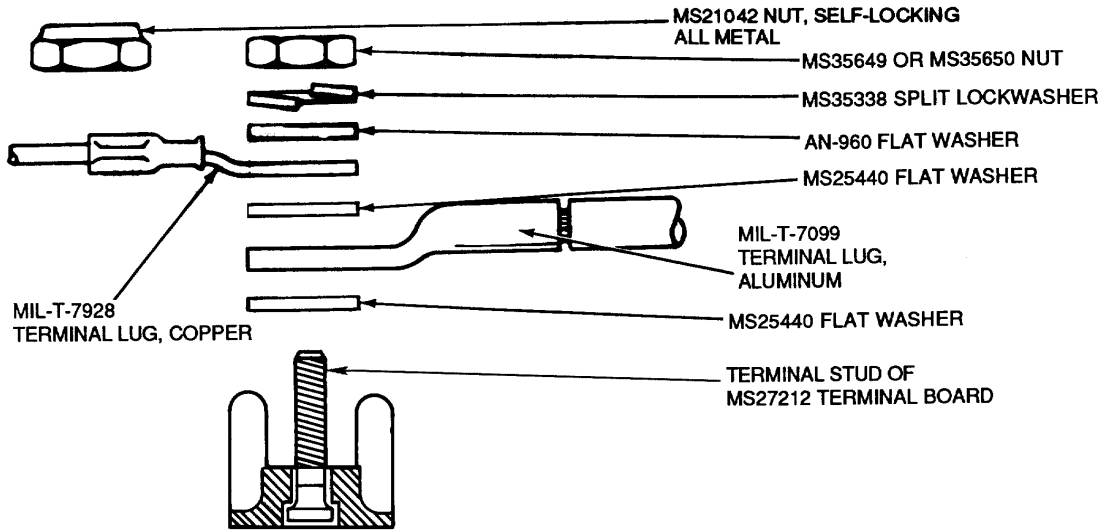

Figure 16. Hardware for Wiring Terminal Boards with Combination of Terminals
30. **ATTACHING COMBINATIONS OF TERMINALS.** To attach copper terminals with aluminum terminals on the same terminal stud proceed as follows (Figure 16).
- c. Assemble in proper sequence (Figure 16).